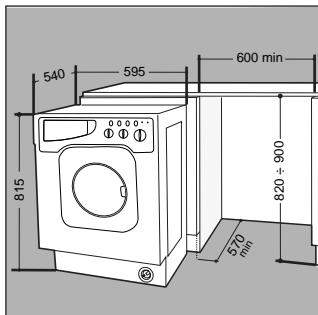

Fig. 6
- Push the machine into the opening, aligning it with the cabinets (fig. 6).